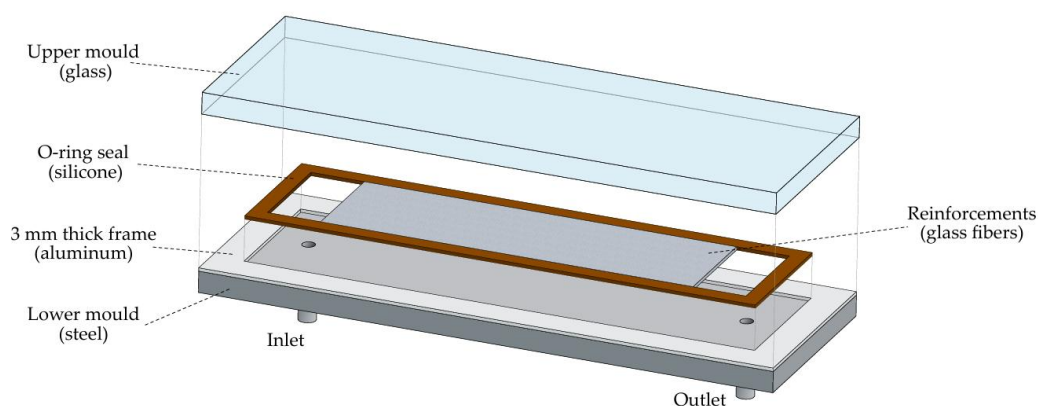

Figure 1: Schematic of the mould setup
- Place the metallic frame, the silicon O-ring seal and the fabric according to Figure 1.